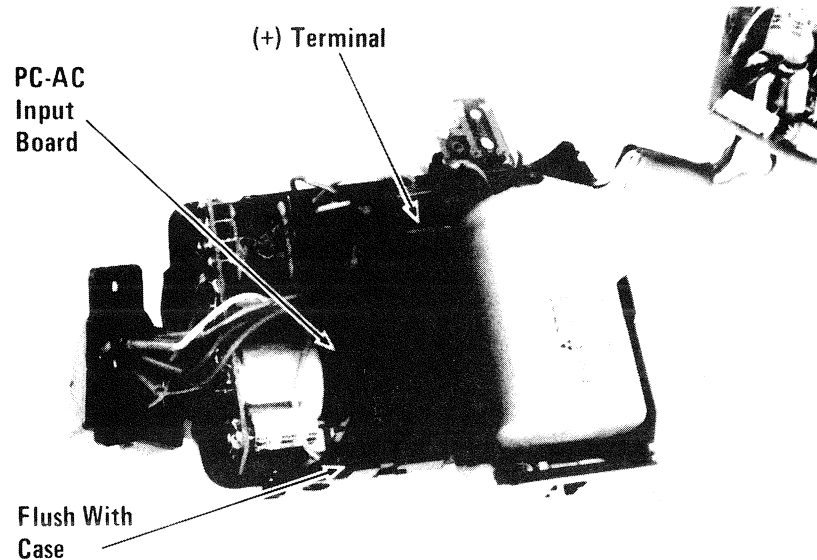

Figure 3-21. Battery Case Installation
- E. Slide groove on battery case onto edge of PC-AC input board. Make sure that the outer edge of the battery compartment is flush with the edge of the body case LA. Check that battery terminals are correctly clipped onto battery case. The positive terminal is the one with the smaller bulge and the red wire. It should be placed where there is a "+" mark on the floor of the battery case. Fig. 3-21.